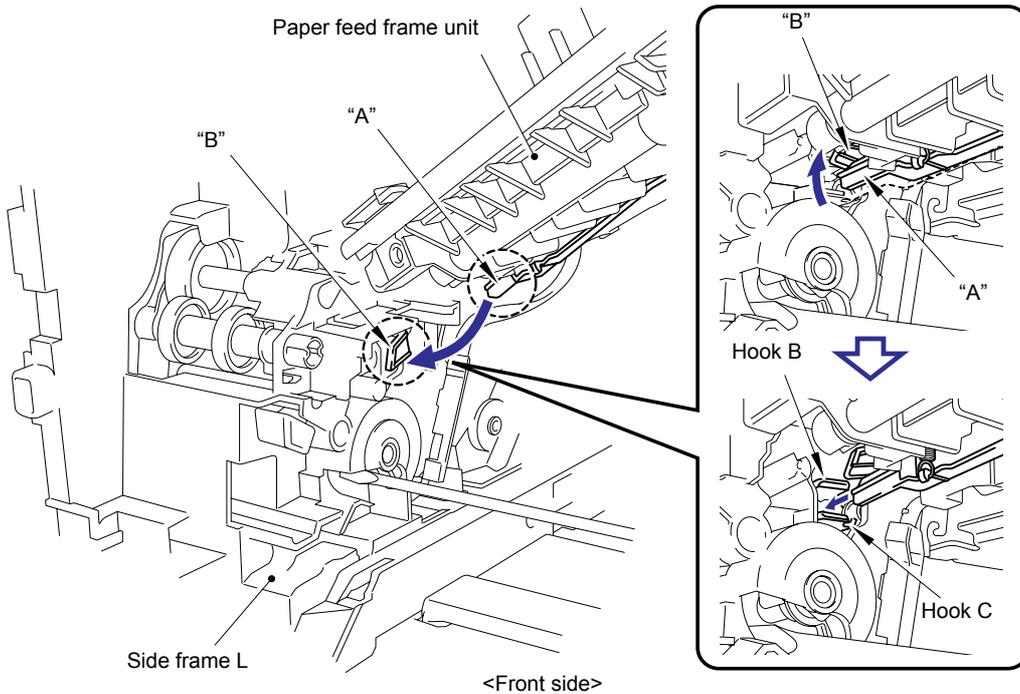

Fig. 3-71
- (1) Put the belt cleaner release sensor harness and belt cleaner release solenoid harness through the hole on the paper feed frame.
- (2) Put the two harnesses above and T1 PE/edge sensor harness through the PF CR harness holder and put them out of the hole on the Side frame L.
- (3) Hold the PU lift up cam with a Screwdriver or the like so that it is push to the back side of the machine. The section "B" shown in Fig. 3-71 in the next page can be moved up and down by this operation, which makes easy to assemble the lift arm.
- 1) When pushing up the Roller holder ASSY with your hand, the end (section "A") of the Lift arm goes down. That makes easy to push the end of the Lift arm under the section "B" shown in Fig. 3-71.